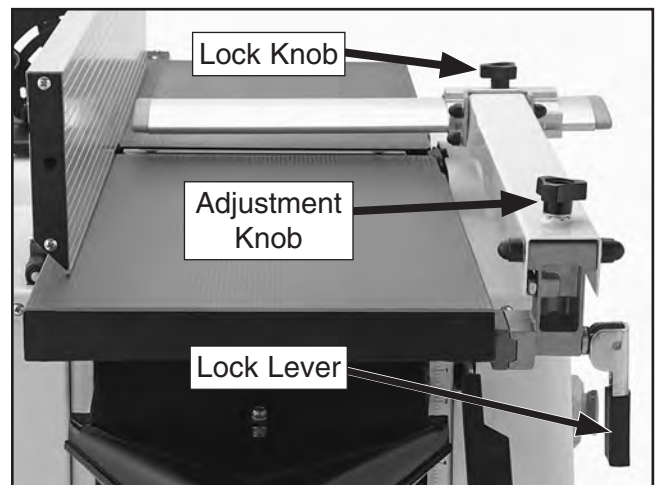

Figure 24. Blade guard controls.
Blade Guard: To position the blade guard over the cutterhead (**Figure 24**), loosen the lock knob, reposition the guard, then tighten the lock knob. Place the guard as close as possible to the cutterhead during operations to reduce the risk of serious injury from cutterhead contact—while also allowing adequate clearance for workpieces.
Blade Guard Arm: To adjust the blade guard height, turn the adjustment knob (see **Figure 24**) clockwise to lower and counterclockwise to raise the blade guard. To move the bracket and blade guard out of the way, disengage the lock lever, then rotate the bracket assembly away from the outfeed table.
3. Engage the blade guard lock knob and blade guard arm lock lever (see **Figure 24** on **Page 21**).